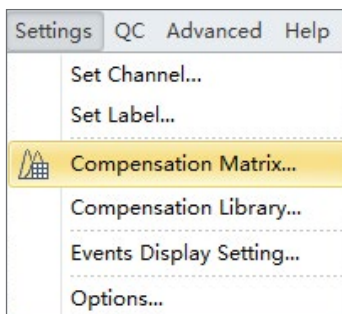
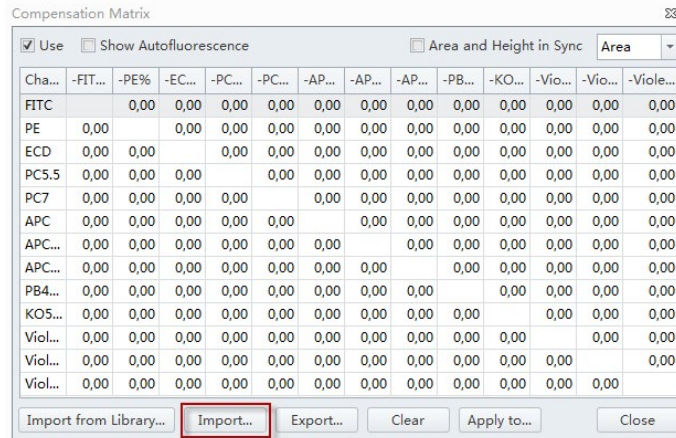
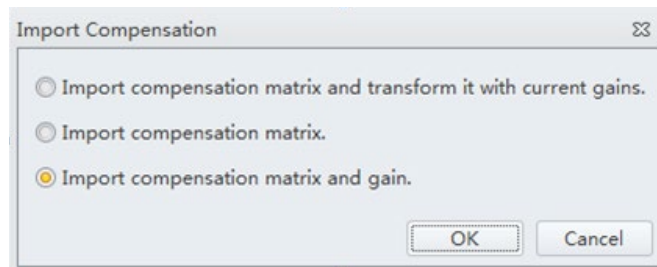

Figure 20. Settings submenu showing the Compensation Matrix command.
Figure 21. Compensation Matrix window with the Import button highlighted.
Figure 22. Import Compensation dialogue box with the correct option selected.
4. Import the gains and compensation matrix by selecting “Compensation Matrix” from the “settings” menu (Figure 20) and selecting the “Import” function (Figure 21) and selecting the lot specific DuraClone* compensation matrix. Choose to import the compensation matrix and gain as shown in Figure 22.